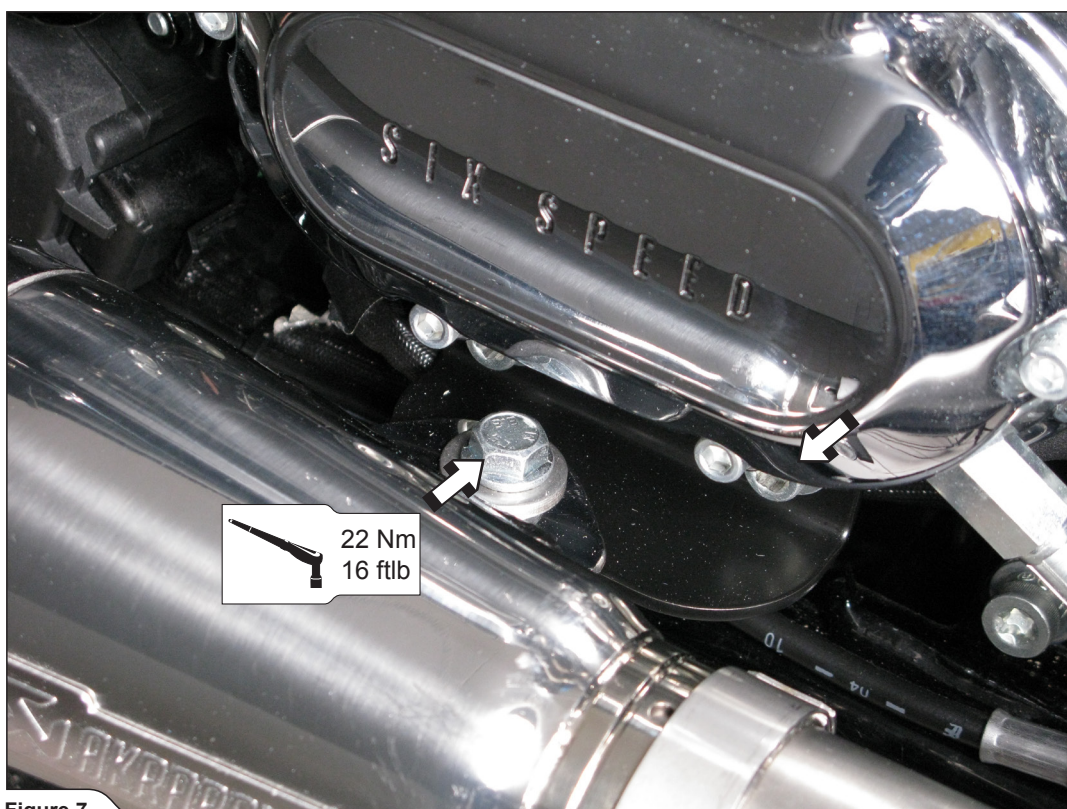

Figure 7
7. Slide the muffler onto the collector. Align the muffler and attach it to the muffler's bracket, using bolt, washers and nut from Akrapovič installation kit (**Figure 7**).